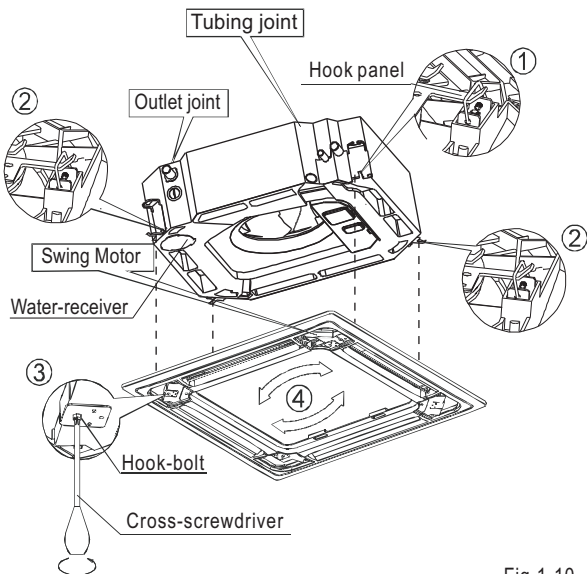

Fig. 1-10
- Align the swing motor on the panel to the tubing joints of the body properly. (Refer to Fig.1-10)